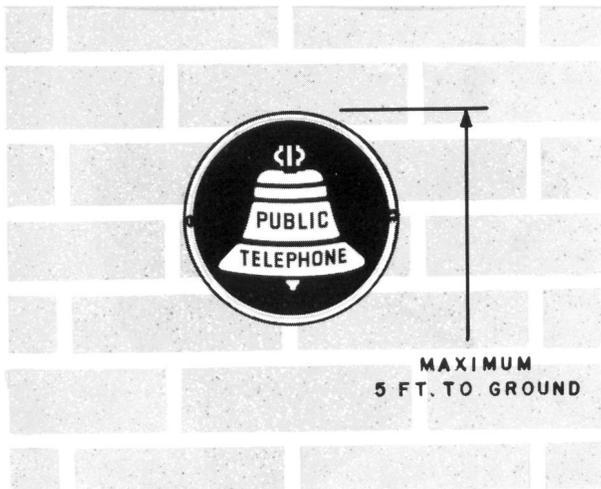
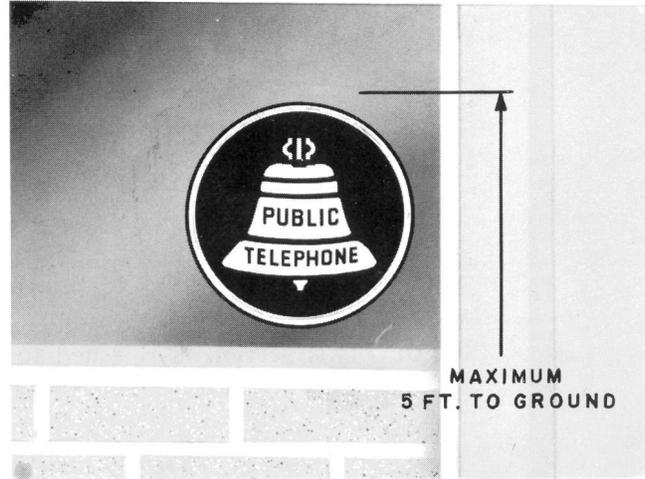

Fig. 2—KS-19027, List 1 Sign Mounted with Screws
Fig. 3—KS-19027, Lists 2 and 3 Signs Mounted with Cement and Adhesive, Respectively
3.01 KS-19027, Lists 1 and 2 signs may be mounted on flat surfaces with screws (Fig. 2) or with cement (Fig. 3).
3.02 KS-19027, List 3 sign is aluminum with a pressure-sensitive adhesive on back for mounting. Adhesive is protected by a removable cellophane backing (Fig. 3). To mount pressure-sensitive adhesive aluminum sign: